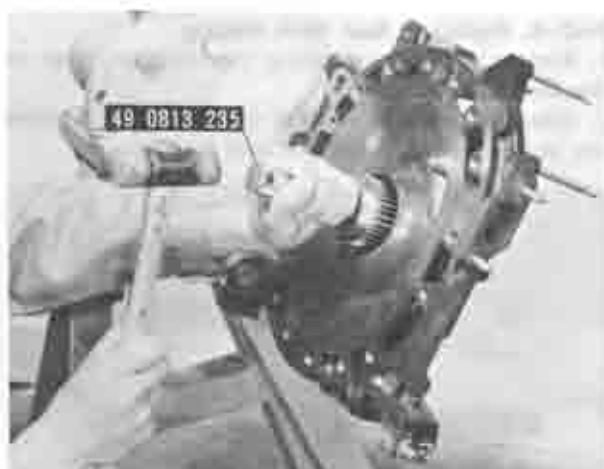

Fig. 1-29 Removing front stationary gear
1. Remove the stationary gear and main bearing assembly from the front housing, using the Puller & installer (49.0813.235), as shown in Fig. 1-29.